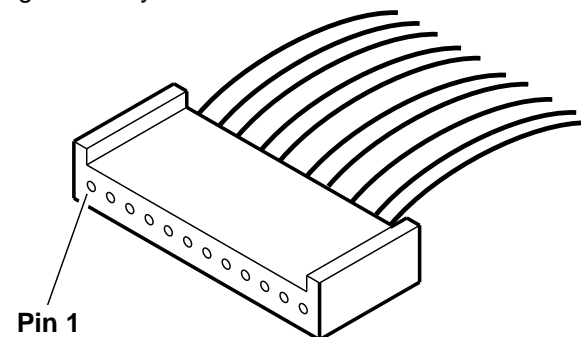

Figure 2. P/J194 Pin locations
- c. On the auxiliary tray side of the connector, measure the resistance between pin 4 and pin 5 (Figure 2).